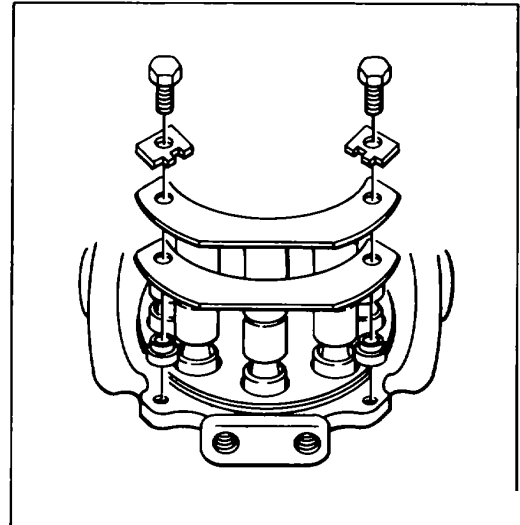

Figure 141.
14. Spread a light film of oil over the surface of the wear plate (20) and slide piston (18)/return plate (19) assembly into place.
15. Assemble second of two spacer assemblies. Install two spacers (13), one bearing plate (14), one clip (15), two new tab lock washers (16), and two hex bolts (17). See Fig. 141. Torque four hex bolts (17) to 156 in. lbs. Check clearance between each piston shoe and wear plate surface. Clearance should not be less than .003 or more than .007 in. Clearance of .0015 to .003 are acceptable ONLY if the rotating group spins freely by hand with no binding or tight spots. Turn up tab locks (16).